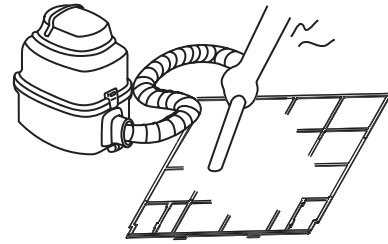

Fig.7-4
*The air-in side should face up when using a vacuum cleaner. (Refer to Fig. 7-4)*